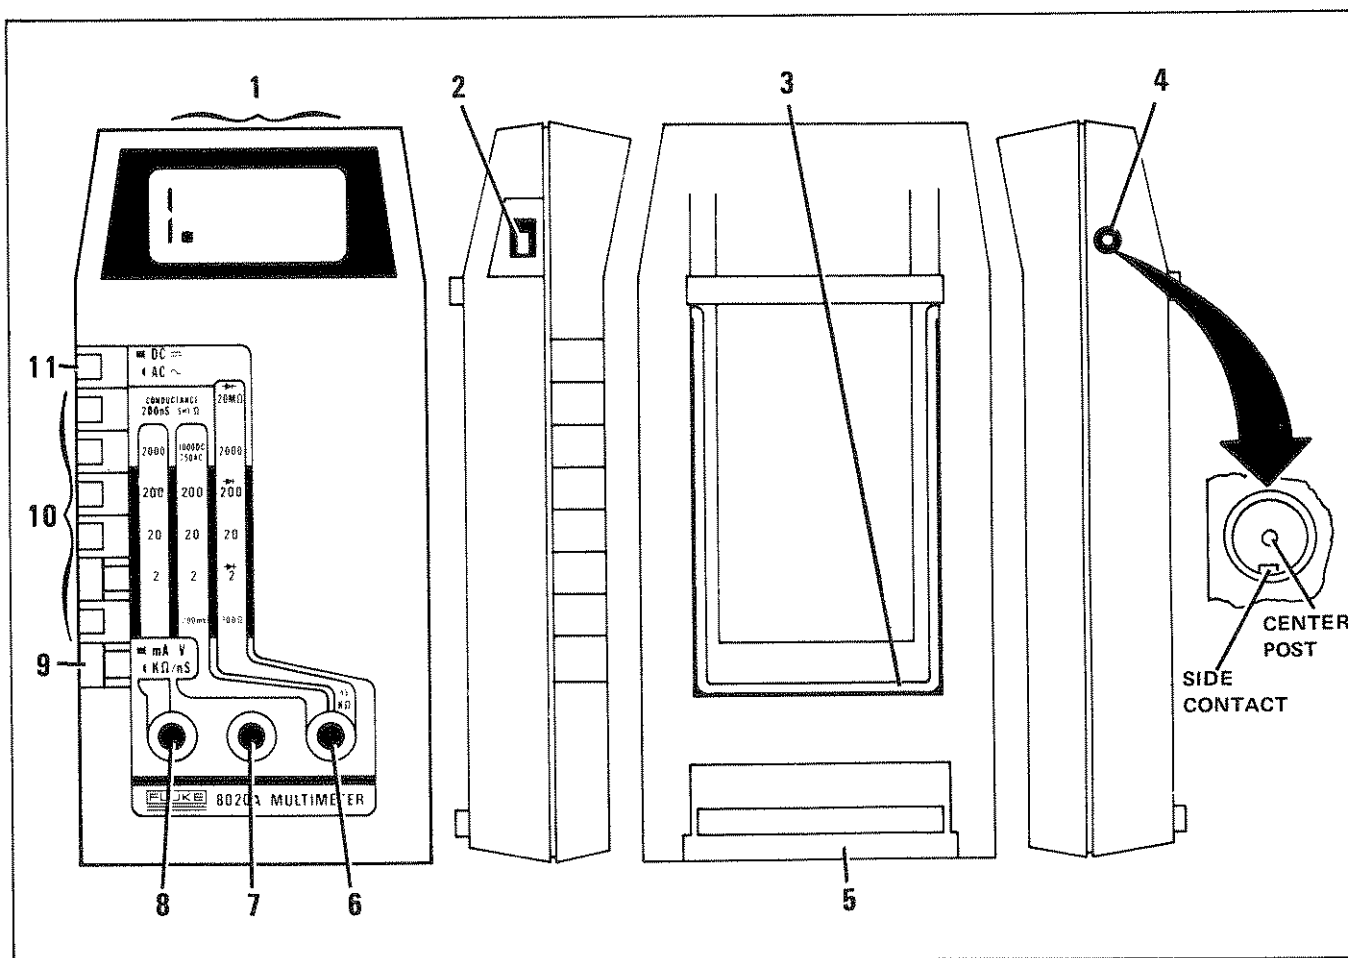

Figure 1-1. Controls, Indicators, Connectors
1-11. All of the buttons, switches, and other externally accessible physical features of the 8020A are shown in Figure 1-1 and described in Table 1-1. Locate each of the features on your instrument as you read the functional description.
f. Look inside of the battery eliminator connector on the right side of the 8020A and locate the connector contacts (center post and side contact as shown in Figure 1-1).